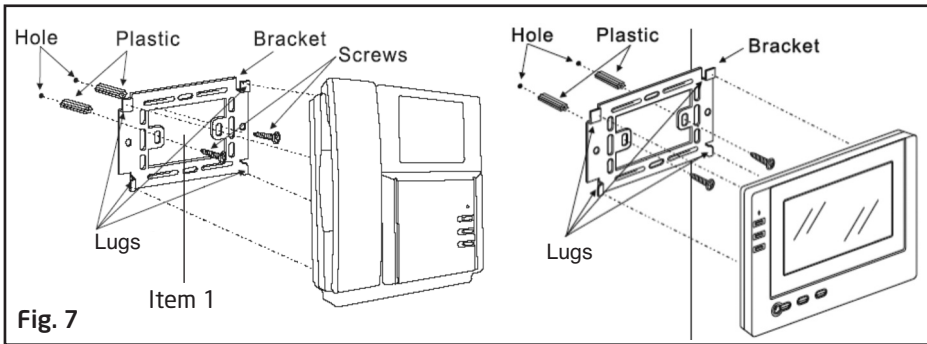

Fig. 7
- Locate the 4 lugs on the metal back plate, one located on each corner see Fig. 7, these lugs must fit into the recesses on the rear of the hand set.